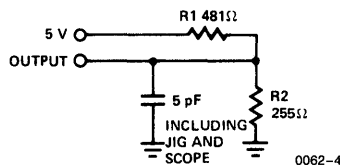

Figure 1b
6. tHZCE and tHZWE are specified with CL = 5 pF as in Figure 1b. Transition is measured ± 500 mV from steady state voltage.